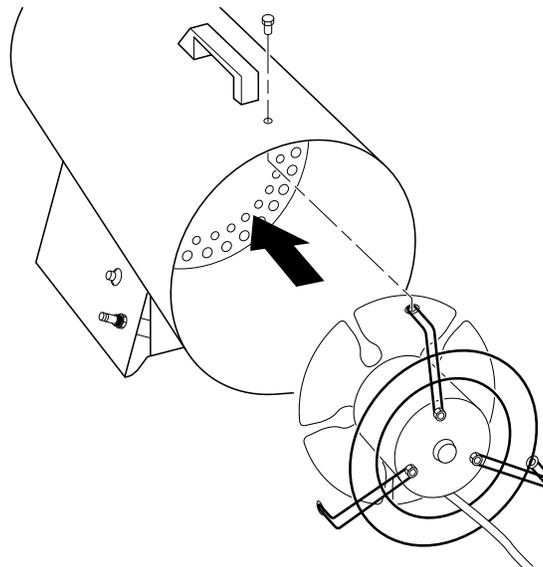

Figure 12 - Replacing Motor and Fan Guard into Heater
9. Place motor and fan guard into rear of heater shell. Make sure power cord is properly located (see Figure 12).